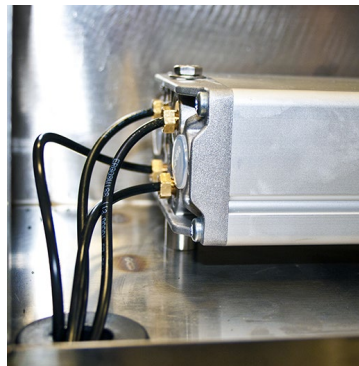

Fig. 30: Insert bolt in hole
- Reinsert the 3 1/2" bolt into the head end of the pump. Under the pump, reinsert the spacer onto the bolt (Fig. 29). Insert the bolt with the hole in the hydraulic compartment (Fig. 30). Under the hydraulic compartment, secure the pump to the compartment with its lock nut. Tighten nut and bolt (Fig. 31 - Fig. 32).